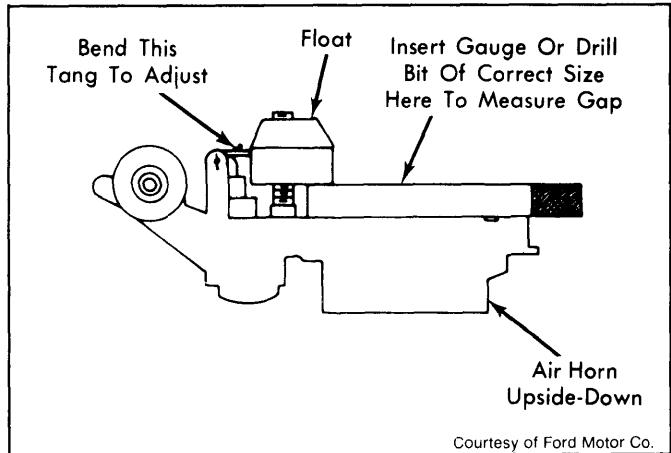

Fig. 1: Adjusting Float Level
1) With air horn removed, turn up-side down. Allow weight of float to press down against float needle valve. See Fig. 1.